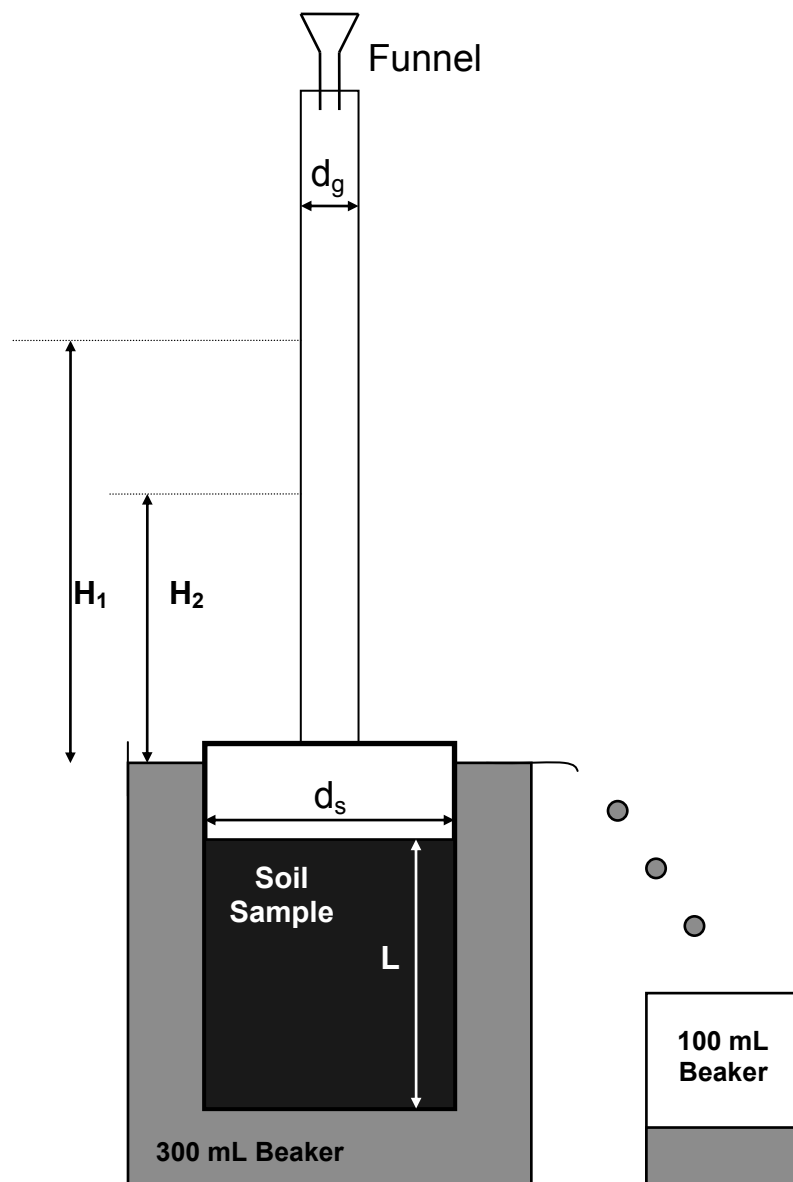

Figure 1: Falling Head Apparatus
In this lab you will measure the saturated hydraulic conductivity of two soils using the **Falling Head Method**; which involves adding water once to the inlet tube and allowing the water to percolate through the soil sample as the hydraulic gradient decreases exponentially over time. This method initially applies a relatively large hydraulic head to the top of the soil sample, then the applied hydraulic head decreases over time as the water flows through the soil sample. This generates an exponentially decreasing flow rate over time. The hydraulic conductivity of the soil can then be determined by measuring the length of time required for the falling water level to pass between two points on the inlet tube (H₂, H₁) (*Refer to Figure 1 for experimental set-up*). By integrating Darcy's formula (eq. 1.1) for saturated water flow, the saturated hydraulic conductivity for the falling head method is:
10. Now that the soil is saturated, it is no longer as easy to disturb so the cylinder can be further lowered into the water. With the rubber-stopper-with-the-glass-tube-in-the-centre firmly in place, submerge the 300mL beaker in the bowl, and slide it under the cylinder (see Fig. 1). You may have to lift the cylinder slightly and briefly to do this.
11. The beaker should be upright, and filled with water, with the cylinder inside of it (**See Fig. 1**). Next, simultaneously, remove the beaker & cylinder from the bowl. Position the plastic cylinder so that the top edge of the cylinder is just above the water level (~0.5cm) in the beaker. You may find it easier to pour water into the large beaker using the small 20ml beaker to achieve the desired reference height.